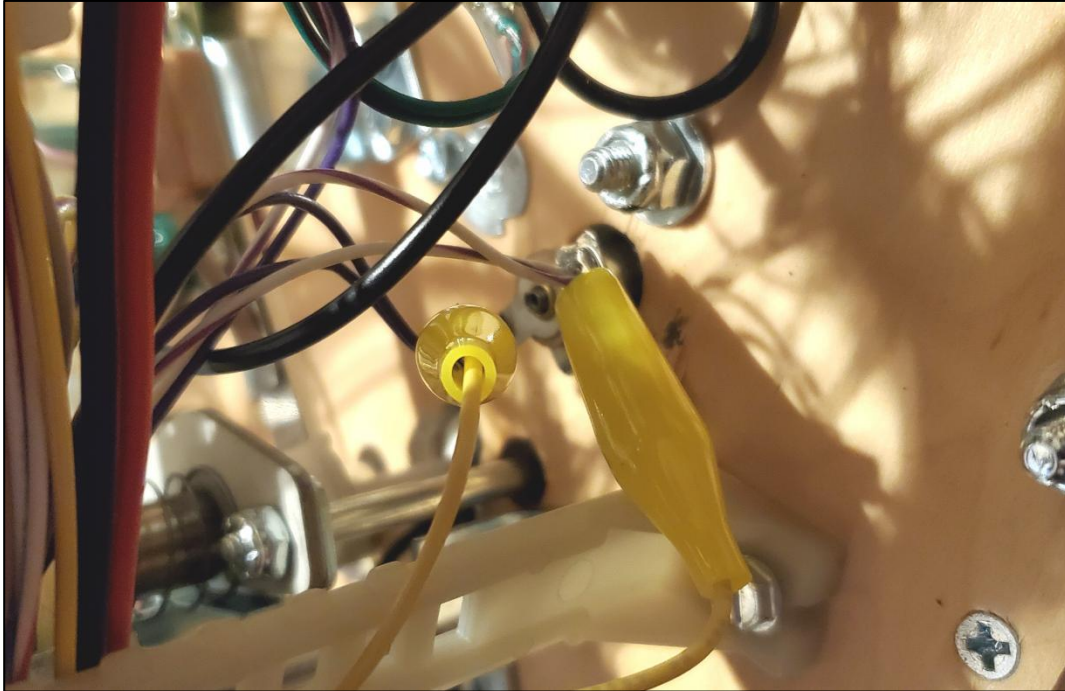

Figure 4
Step 4: Install the supplied yellow general illumination alligator clip wiring harness to J2 “GI IN” connector of the Controller PCB. Attach the clips to any available general illumination lamp socket tabs near by. The clip order on socket tabs does not matter. Verify solid connections without any shorts. See **Figure 4**.